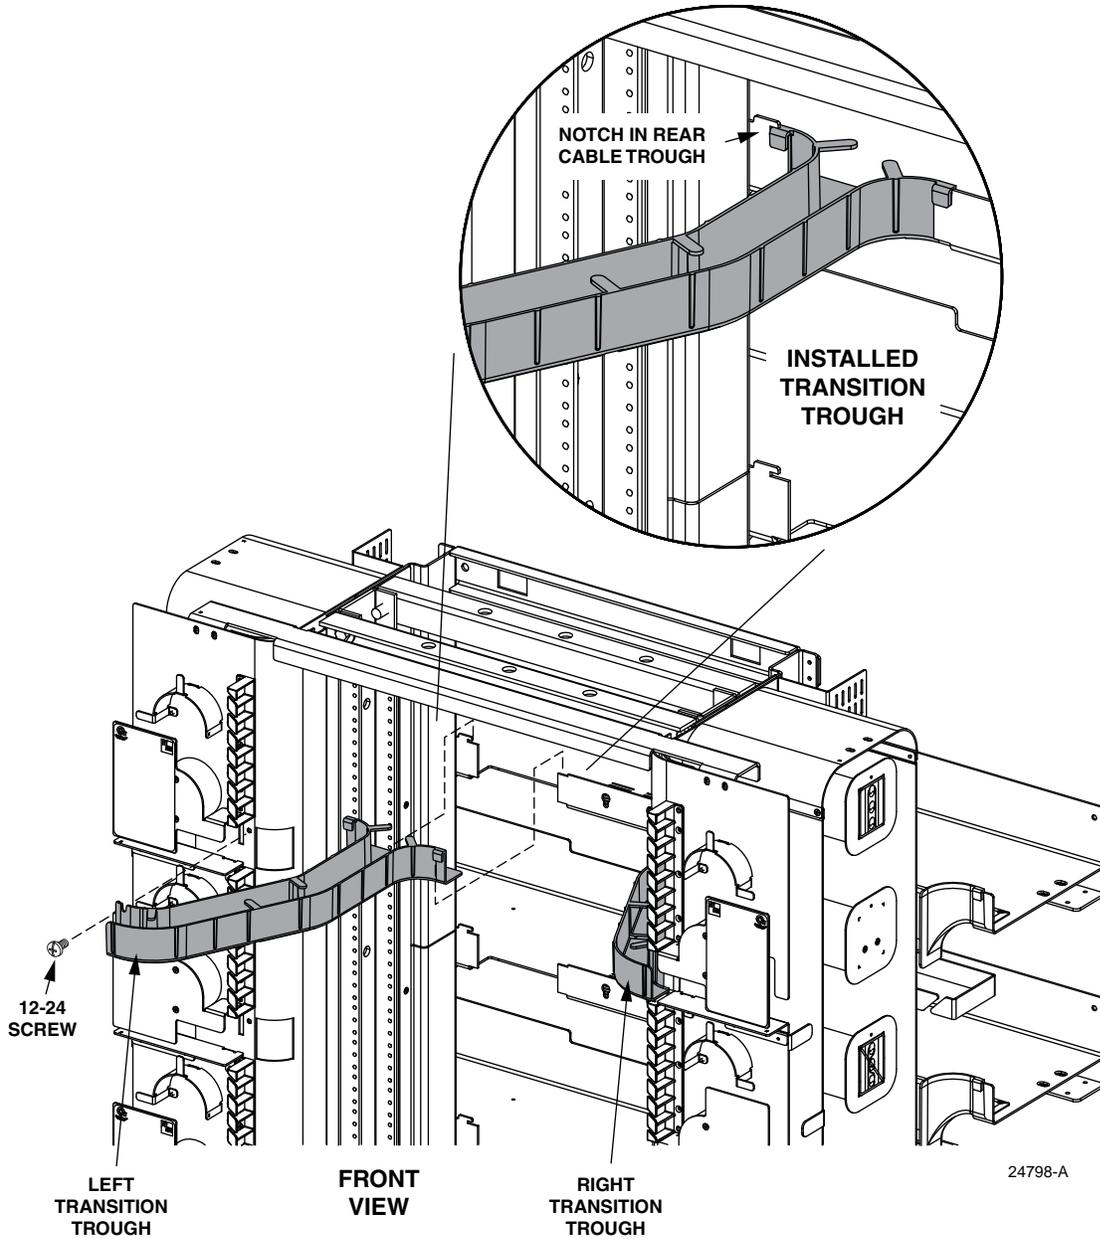

Figure 13. Transition Trough
5. Install (8) left and (8) right transition troughs (These go from the front to the rear). From the front slide each transition trough on to the rear cable troughs.
- Slide one side of transition trough into notch in rear cable trough while hooking the other side over the rear cable trough. Secure each transition trough at the front with one screw (no lockwasher). See Figure 13.